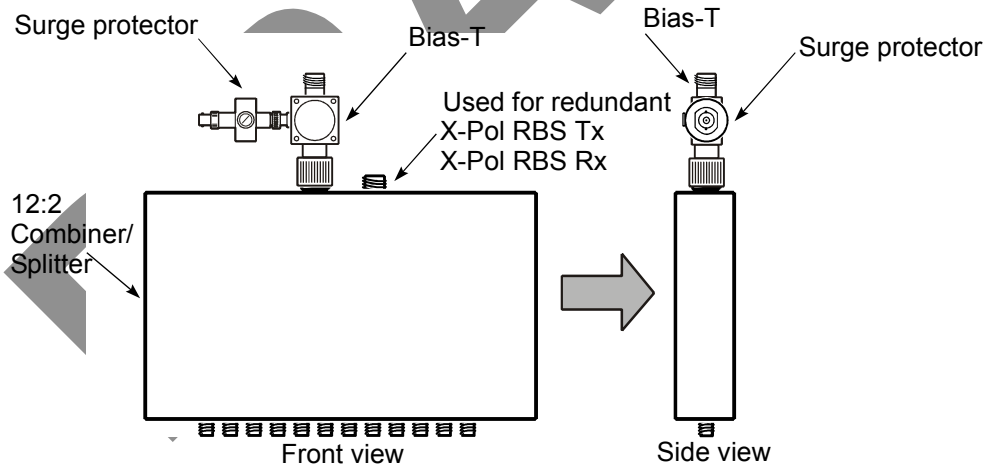

Figure 20 – Connecting the Bias-T to the Combiner/Splitter
3. Position the Bias-T RF IN connector on one of the two Combiner/Splitter Primary/Redundant radio connectors, as shown in *Figure 20*.